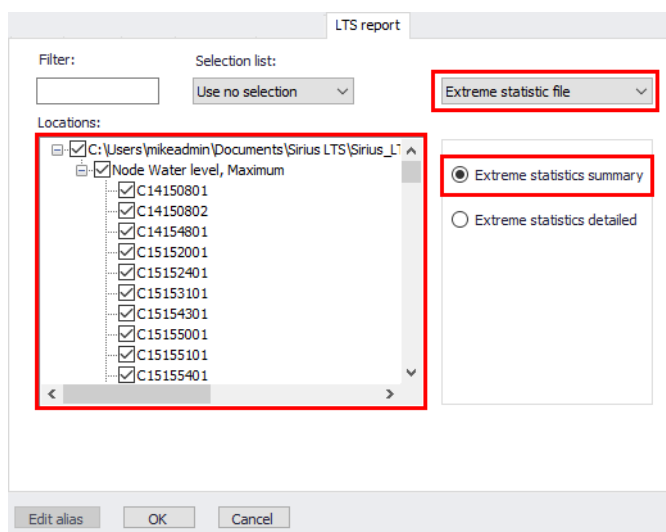

Figure 20.68 LTS extreme event statistics summary report configuration
- Choose to generate a report with the ‘Extreme statistics file’ from the dropdown menu on the upper right side of the page (Figure 20.68).
- Select the items and locations which shall be included in the report (Figure 20.68). Note that relevant items are offered on the Locations panel only if the appropriate LTS result file has been activated for the result document creation.